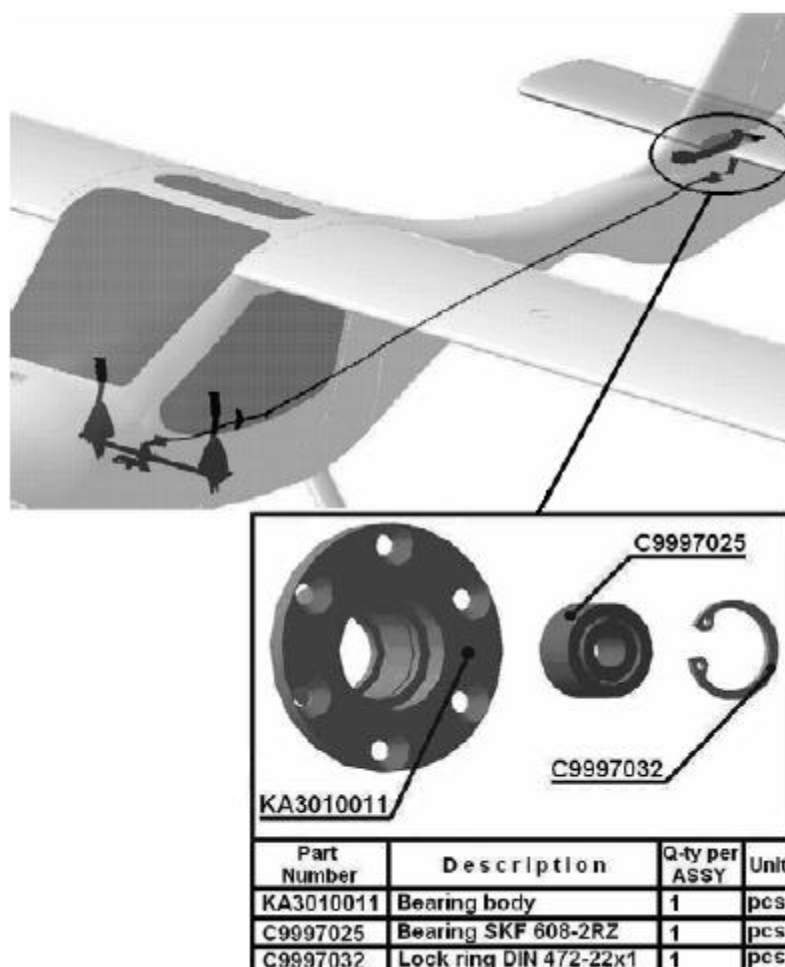

Fig. 2
1. Check lock rings C9997032 (Lock ring DIN 472-22x1) (Fig. 2) that secure the bearings C9997025 (Bearing SKF 608-2RZ) on both sides of the fuselage are present. Check inner cage of the bearings C9997025 for free rotation. Replace bearings, if necessary.
10. Find the middle of the trim tab cable (d=1,5 mm, l=8,0 m). Put ends of the cable on the sheaves (pos. 4) and turn each end around its slot (pos. 5) of the sheave 1,5 times in the opposite directions; then insert them into the safety Bowden cables.
12. Mount the stabilizer bracket (pos. 3) on the fuselage.
13. Stretch the trim tab rods in the tale part of the fuselage through one of the miniblocks (pos. 6).
15. With the help of turnbuckles (pos. 7) connect the trim tab rods with the trim tab rods stretching from the throttle box (pos. 8).
19. Using a bolt C9996060 Bolt DIN 912 M6x35-8.8 connect to rod tip C9997004 (Rod end bearing, int. thread SI6E) to the stabilator bracket B3010120. Tighten the nut C9996334 (Self-locking nut DIN 985-M6, regular) using two 10x13 wrenches to torque 80 lb-in / 9 N*m) (Fig. 2).